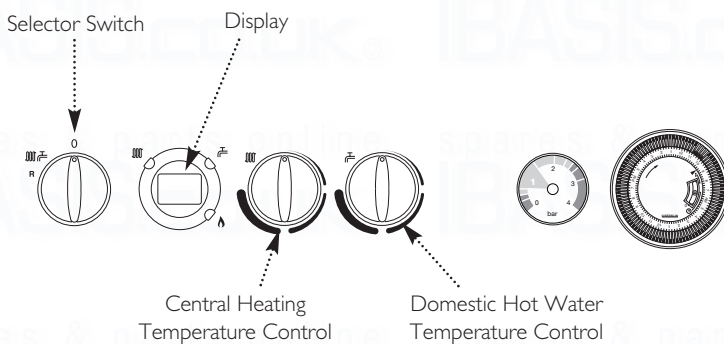

Fig. 56
6. The display will now alternate between 'SF' and the current boiler temperature and both green LEDs will flash (Figs. 56 & 57).